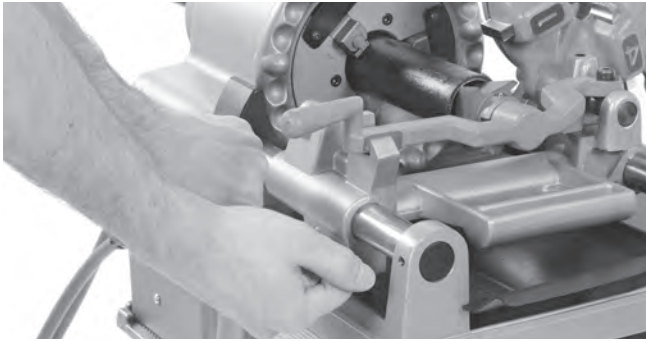

Figure 12 – Reaming with 344 Reamer
2. Move the ON/OFF (I/O) switch to the ON (I) position.
3. With both hands, grasp the carriage handwheel. See Figure 12.